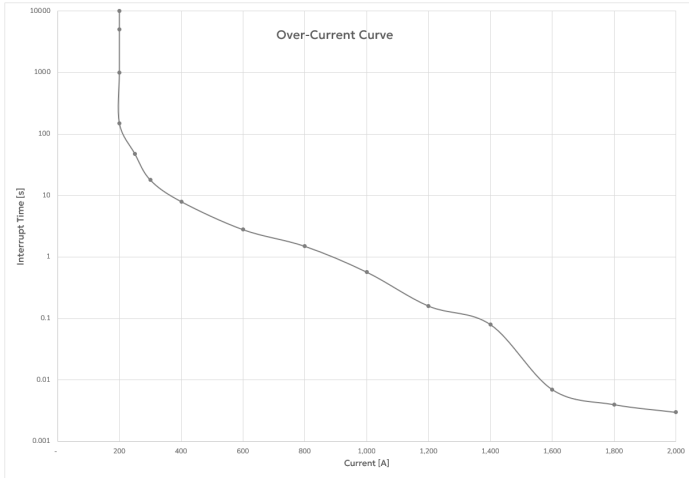

Figure 3. Breaker Protection Time Curve
- (c) For time versus current interrupt details, refer to Figure 3. Over-Discharge Protection Time Curve.